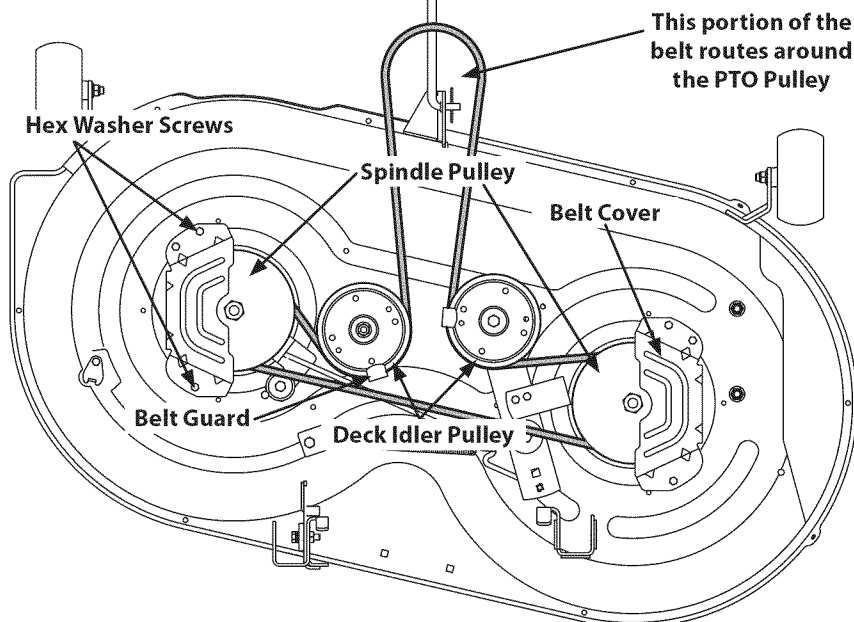

Figure 22
1. Remove the belt covers from the spindle pulleys by removing the hex screws that fasten the covers to the deck. See Figure 22.
3. Carefully remove the deck belt from around the two spindle pulleys and the two deck idler pulleys. See Figure 22.
4. To place the new belt, begin by routing the belt around the two outer spindle pulleys as shown in Figure 22.
5. Then route the belt around the two deck idler pulleys as shown in Figure 22.
8. Re-install the deck, making sure the belt remains routed around the pulleys as instructed. The complete belt routing is shown in Figure 22.